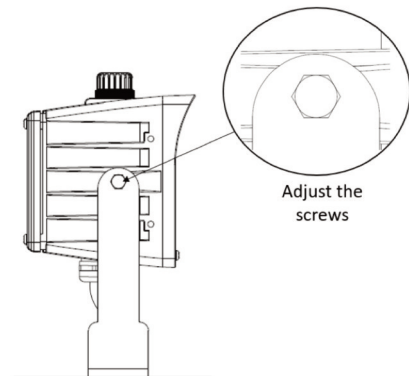

Fig. 6
- 3.) Using a wrench, adjust the luminaire to the desired angle and tighten the screw (see Fig. 6).